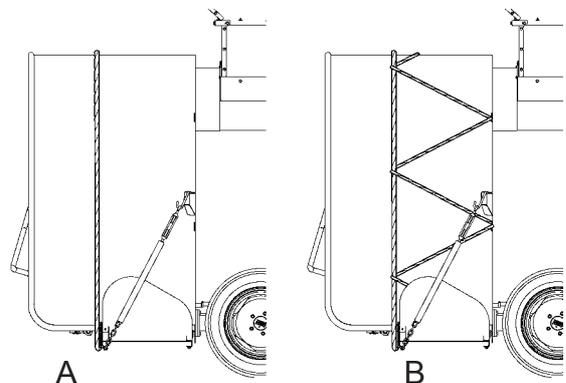

Figure 17 - Arrangement of elastic ropes
14) Position the elastic rope as an accessory so that it holds the grain bag mounted on the silo tunnel. This 16-mm (5/8") diameter rope, which helps to control the unfolding of the grain bag, hooks into the eyelets located at the bottom of the tray as shown in Figure 17 (A). The 8-mm (5/16") diameter rope used for holding the elastic rope should be hooked into the eyelets located on the silo tunnel, running round the elastic rope between one ring and the next. This retaining rope should end up arranged in a zigzag as shown in Figure 17 (B).